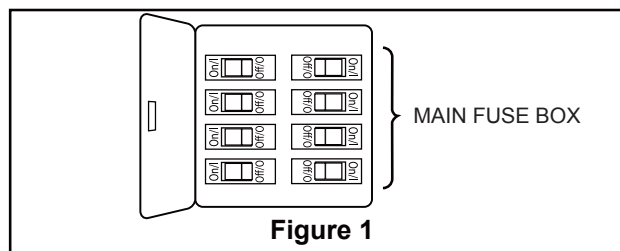
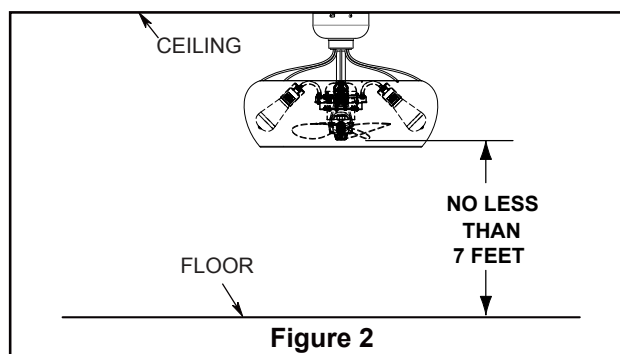
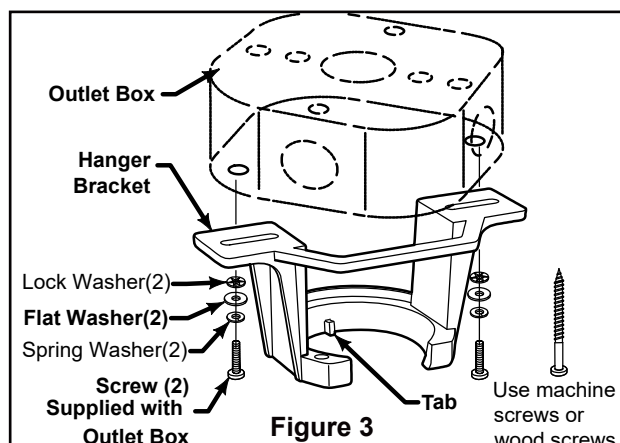

Figure 1
Figure 2
Figure 3
Your new ceiling fan will require a grounded electrical supply line of 120 volts AC, 60 HZ, 15 Amp Circuit. Electrical code requires use of a fan-rated outlet box to support the extra weight and motion associated with a ceiling fan. A fan-rated box will be labeled as such and typically supports up to a 70lbs ceiling fan. Fan-Rated Outlet Boxes vary in ratings and design. Ensure the ratings of your ceiling fan outlet box meet the requirements for the ceiling fan being installed. Figure 1, Figure 2 and Figure 3 depicts different structural configurations that may be used for mounting the outlet box.
### Low-profile use (Figure 1)
### Deep-profile use (Figure 2)
### Brace use (Figure 3)
1. Loosen the two symmetrical screws at the keyhole first, these two screws should remain on the hanger bracket, and take out the other two screws on the hanger bracket for subsequent installation. Rotate the ceiling canopy and take out the hanger bracket. (Figure 1)
- ☐ 1. Take out the 2 Shoulder Screw of the ceiling canopy and save it for later use. (Figure 1)
- ☐ 2. Unscrew the 4 screws on the outer frame first and save them for subsequent installation (Figure 2)
- ☐ 3. Assemble the ceiling canopy and connect to the outer frame. The ceiling canopy hole is aligned with the outer frame threaded hole, and it is locked and fixed with the 4 screws that were taken out earlier. (Figure 3)
To avoid possible fire or shock, be sure electricity is turned off at the main fuse box before hanging. (Figure 1)
The fan must be hung with at least 7' of clearance from floor to blades. (Figure 2)
- ☐ 1. Securely attach the hanger bracket to the outlet box using the outlet box screws and washers supplied with the outlet box. (Figure 3)
*This fan and lights are controlled by the handheld remote control and receiver unit that are included with your purchase. The receiver unit is first connected to the house wiring, and then to the fan and light fixture. The handheld remote control and receiver communicate via radio frequency. The frequency that they communicate on is determined using dip switches that are located with both the receiver unit and the handheld remote control. (See figure 1)*
**To avoid possible electrical shock, be sure electricity is turned off at the main fuse box before wiring. (Figure 2)**
- ☐ 2. Slide the receiver into the hanger bracket before wiring as shown in figure 3.
Align the U-slot of the fan blade with the locating pin of the motor rotating shaft. The pin should sink into the U-slot of the fan, then insert the hairpin into the side hole of the motor rotating shaft and clamp it on the motor rotating shaft. Finally, screw the fan nut cover into the middle shaft of the motor and tighten it counterclockwise to fix the fan blade. (Figure 2)